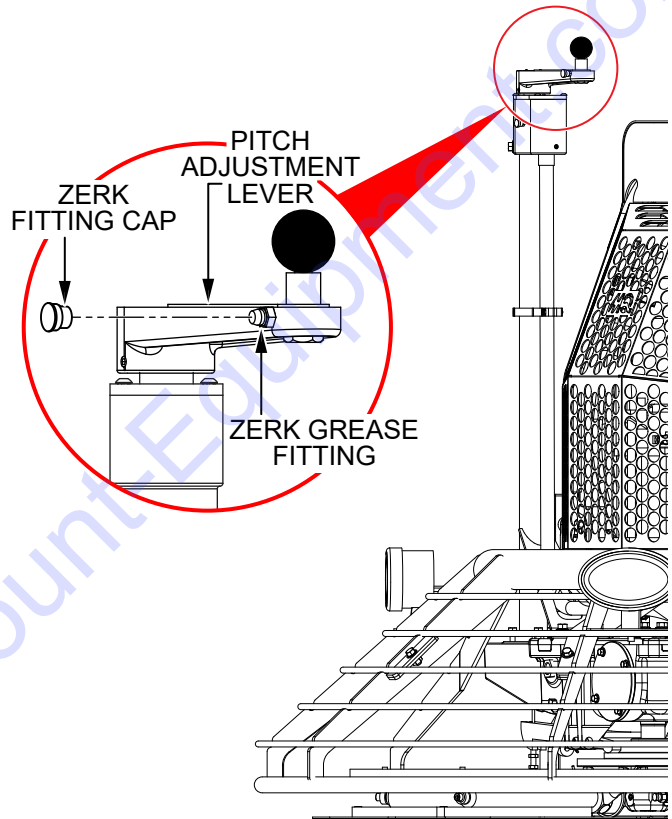

Figure 38. Pitch Adjustment Lever Lubrication
1. Locate the Zerk grease fitting next to the knob on either pitch adjustment lever (Figure 38). Remove the Zerk grease fitting cap and set it aside.